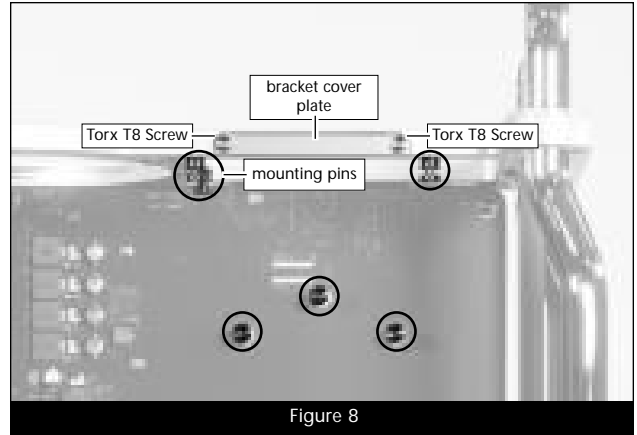

Figure 8
1. Using a Torx T8 screwdriver or key, remove the two screws securing the bracket cover plate at the top of the frame (**Figure 8**). Set aside the screws and plate.
2. Make note of the three bracket mounting pins on the frame and the three mounting pins on the logic board; you will secure the Fusion Flex J3i inside the computer using these pins (**Figure 8**).